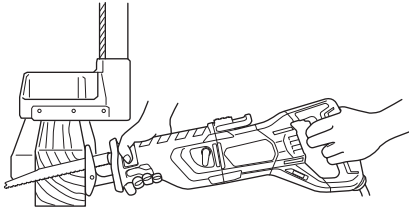

Fig. 18
- (1) When cutting lumber, make sure that the workpiece is fastened firmly before beginning. (Fig. 18)